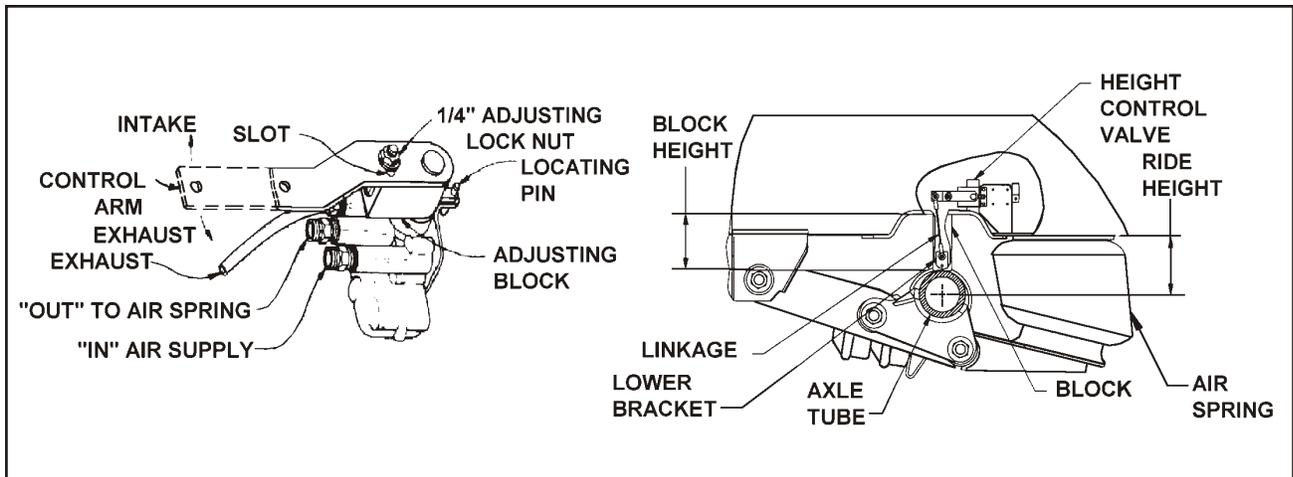

FIGURE 4-4 AIR RIDE HEIGHT ADJUSTMENT
4-6.2 Air Ride Height Adjustment. (See Figure 4-4 for parts identification).
- b. Disconnect linkage at the control arm and raise control arm to the "up" position, raising the trailer until a block can be placed between axle tube and undercarriage frame (See Figure 4-4).
- f. Loosen the 1/4" adjusting lock nut located on the adjusting block, allowing the control arm to move approximately 1 inch. Move the adjusting block until holes align, then insert locating pin. (See Figure 4-4).